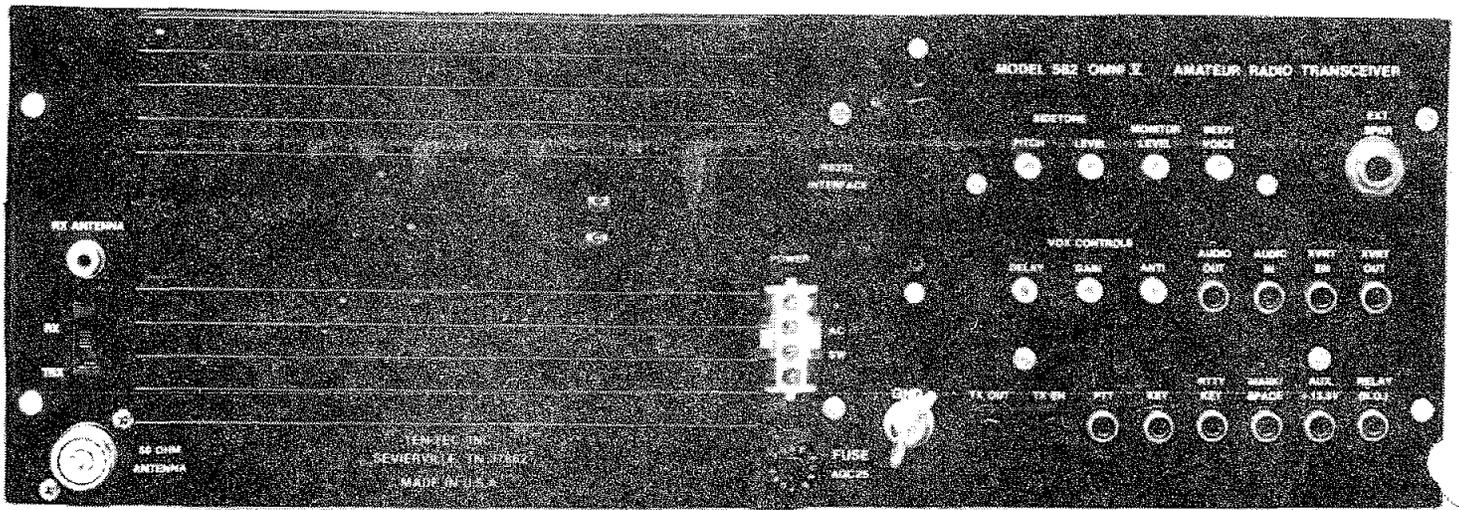

FIGURE 3-3. MODEL 562 REAR PANEL
**3-5 REAR PANEL FUNCTIONS** The following sections describe the rear panel connectors and controls. Refer to FIGURE 3-3 for the location of each connector or control.